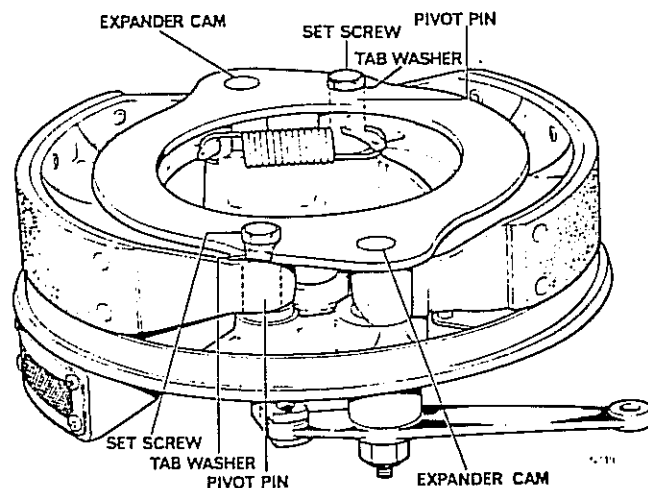

Fig. H14 Twin leading shoe brake with high performance modification
## Front Brake with High Performance Modification – See Fig. H14
- 9 Reassembly of this brake is a straight reversal of the dismantling procedure. The brake shoes are identical. When reassembling the brake, lightly grease the expanders and expander bosses in the cover plate, the pivot pins, working areas at the end of each brake shoe and expander cam end spigots. The latter is imperative and molybdenum disulphide grease is recommended at this point. Take care to ensure that the brake shoe springs are properly fitted at both ends before the brake support plate is offered into position. If a new support plate is being fitted, *do not* open the pivot or expander cam holes at all to ease fitting, or the whole purpose of the modification to tie the pivots and expanders in a fixed relationship will be lost. After fitting the plate securing screws and tab washers, tap the tab washers into position as in Fig. H14.